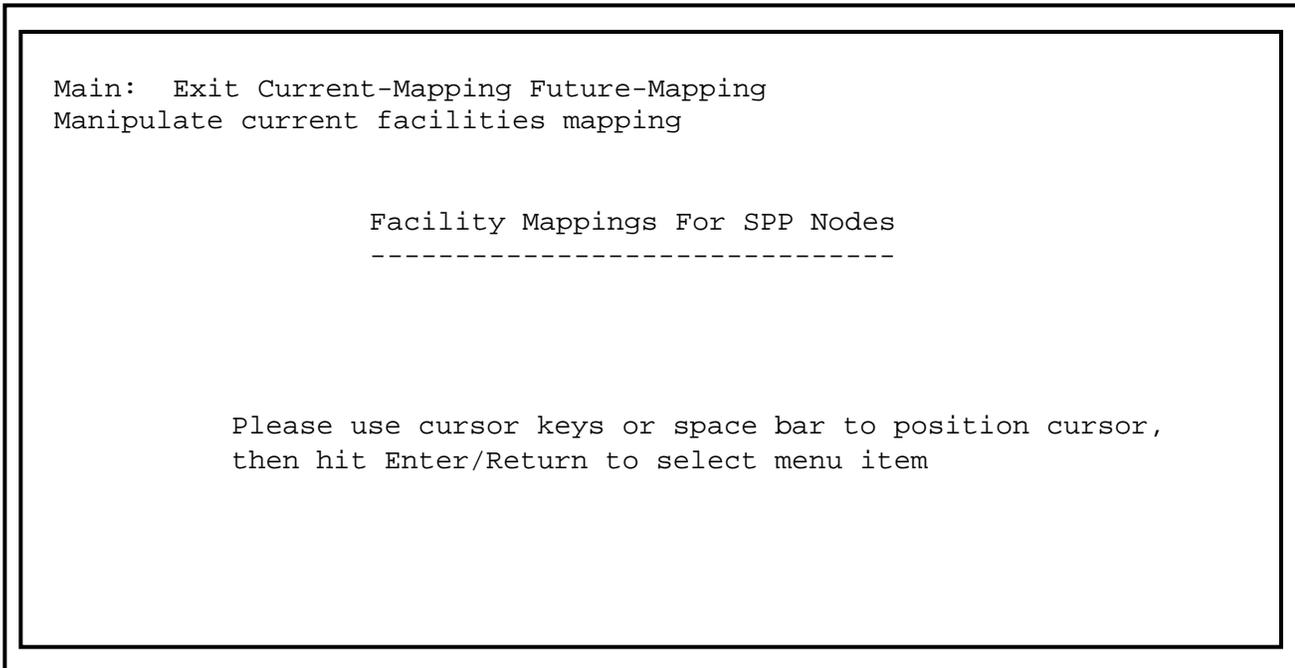

Fig. 7-1
7.03 To gain access to the facility mapping screens, the user must first access the Facility Mapping main menu (see Fig. 7-1). There are two procedures for accessing the main menu. The procedures differ in terms of whether a password is required or not.